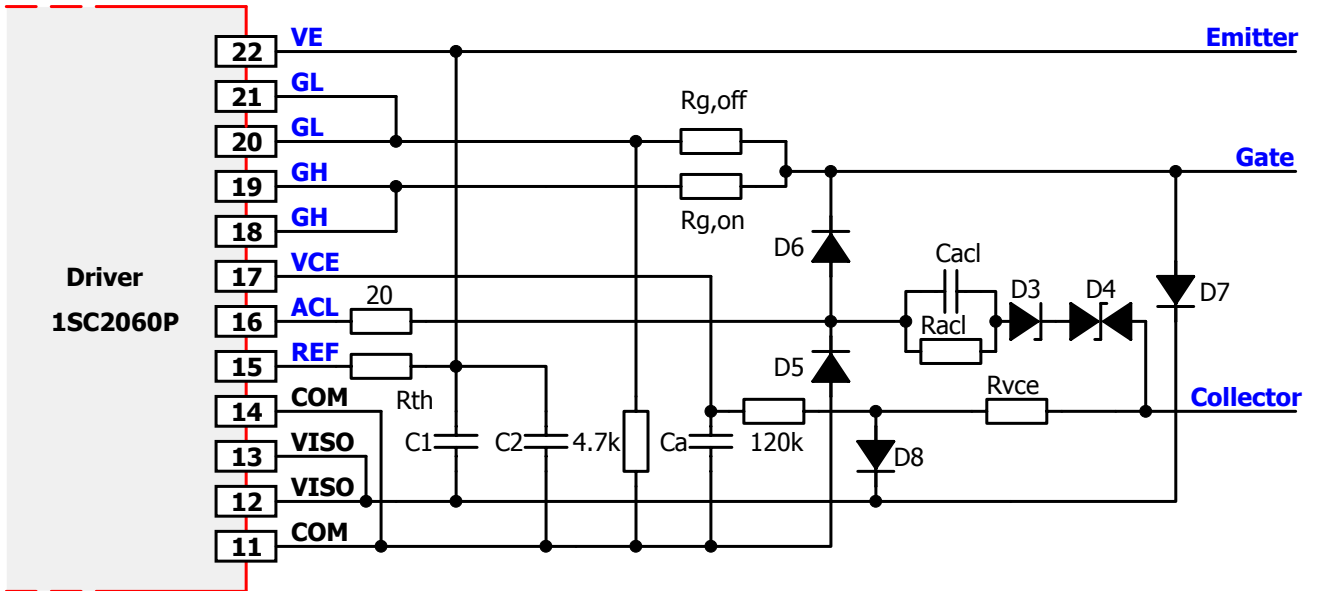

Fig. 5 Recommended user interface of 1SC2060P for IGBT mode with advanced active clamping (secondary side)
Power semiconductors with a gate charge of up to $3\mu\text{C}$ can be driven without additional capacitors on the secondary side. For IGBTs or MOSFETs with a higher gate charge, a minimum value of $3\mu\text{F}$ external blocking capacitance is recommended for every $1\mu\text{C}$ gate charge beyond $3\mu\text{C}$. The blocking capacitors must be placed between VISO and VE (C_1 in Figs. 5 and 6) as well as between VE and COM (C_2 in Fig. 5). They must be connected as close as possible to the driver's terminal pins with minimum inductance. It is recommended to use the same capacitance value for both C_1 and C_2 (IGBT mode). Ceramic capacitors with a dielectric strength $>20\text{V}$ are recommended. Insufficient external blocking can lead to reduced driver efficiency and thus to thermal overload.
The collector sense must be connected to the IGBT collector or MOSFET drain with the circuit shown in Figs. 5 and 6 in order to detect an IGBT or MOSFET overcurrent or short-circuit.
Basic active clamping topologies implement a single feedback path from the IGBT's collector through transient voltage suppressor devices (TVS) to the IGBT gate. The 1SC2060P supports CONCEPT's advanced active clamping, where the feedback is also provided to the driver's secondary side at pin ACL: as soon as the voltage on the right side of the 20 Ω resistor (see Fig. 5) exceeds about 1.3V, the turn-off MOSFET is progressively switched off in order to improve the effectiveness of the active clamping and to reduce the losses in the TVS. The turn-off MOSFET is completely off when the voltage on the right side of the 20 Ω resistors (see Fig. 5) approaches 20V (measured to COM).
It is recommended to use the circuit shown in Fig. 5. The following parameters must be adapted to the application:
- The first mode is the default IGBT setup with both a positive (regulated) turn-on voltage of 15V (typical) and a second (non-regulated) turn-off voltage (see Fig. 5).
The 1SC2060P driver is equipped with a V_{ce} monitoring circuit. The recommended circuit is illustrated in Figs. 5 and 6. A resistor (R_{th} in Figs. 5 and 6) is used as the reference element for defining the turn-off threshold. The value of the current through R_{th} is 150µA (typical). It is recommended to choose threshold levels of about 10V (R_{th} values around 68kΩ). In this case the driver will safely protect the IGBT/MOSFET against short-circuit, but not necessarily against overcurrent. Overcurrent protection has a lower timing priority and is recommended to be realized within the host controller.